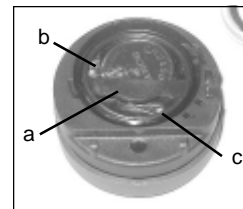

Fig. 78 - Battery Compartment
- Using care not to damage the Battery Contacts (Fig. 78 b/c), slide the Battery up and out of the Battery Compartment.